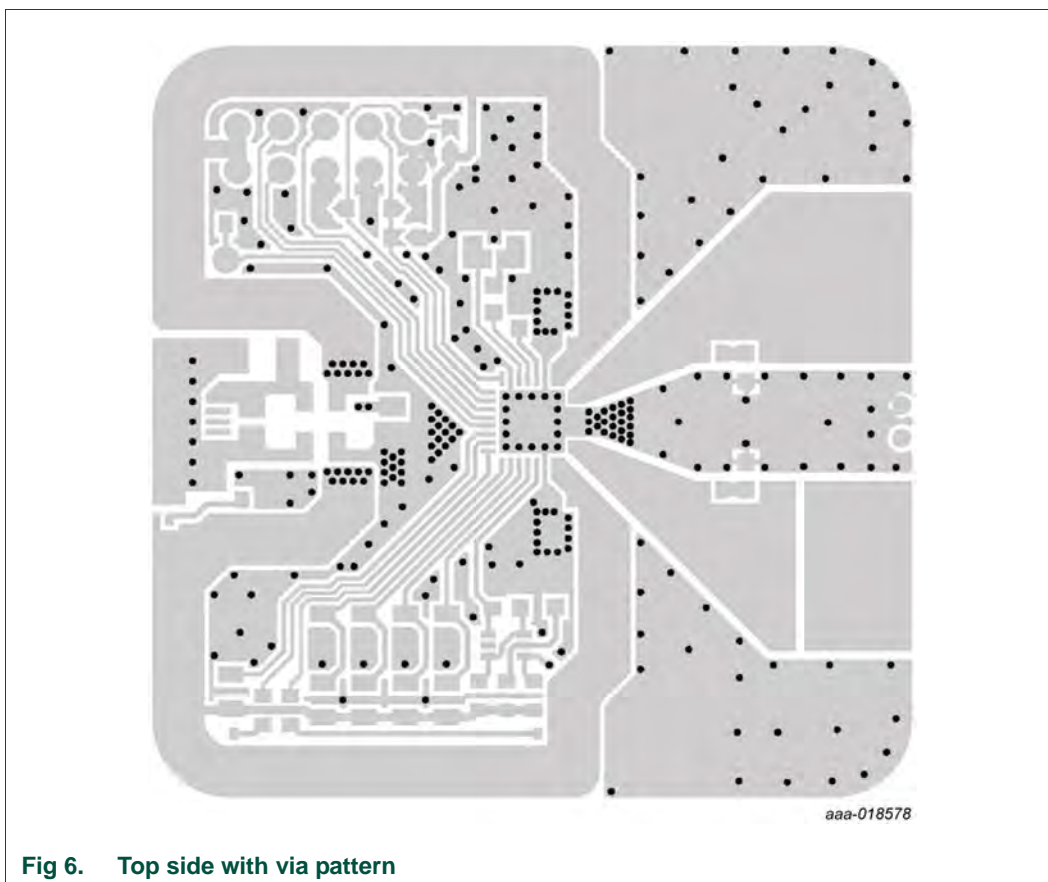

Fig 6. Top side with via pattern
- Shielding (non-current conducting) GND planes in the top copper layer are stitched to the non-current conducting GND areas of the bottom layer GND plane. The stitching is done with vias on the edges of the planes. It can easily be recognized on the right-hand side of Figure 6.
- Underneath the NXQ1TXA5 IC, a pattern of 16 copper-filled thermal vias (see Figure 6) conducts heat from the top side to the bottom side of the PCB. Figure 7 shows the footprint that was used for soldering.